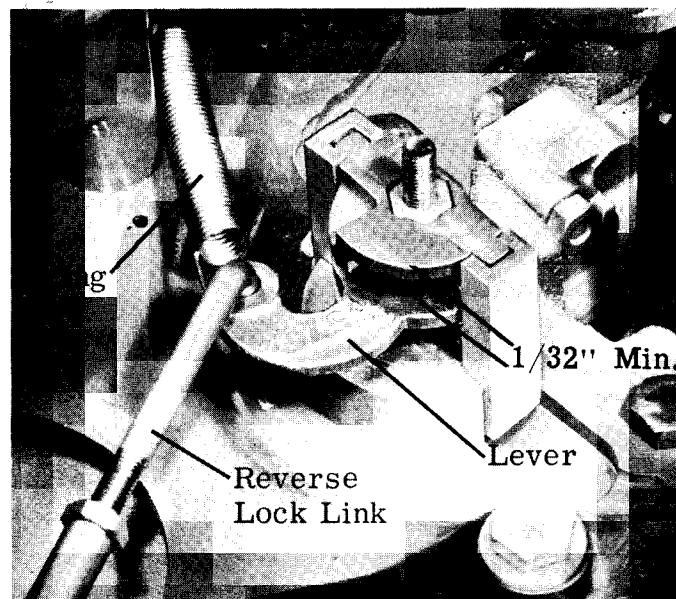

Figure 9. Reverse Cam Adjustment
1. Before placing engine in test tank, adjust reverse cam (if necessary) by actuating self-locking nut on inside bottom cowl underneath lower carburetor. (Figure 9)
2. Bottom cowl lever is positioned to give 600-to-800 RPM in reverse. (Figure 9) This will prevent engine from kicking up in case of improper initial adjustment.